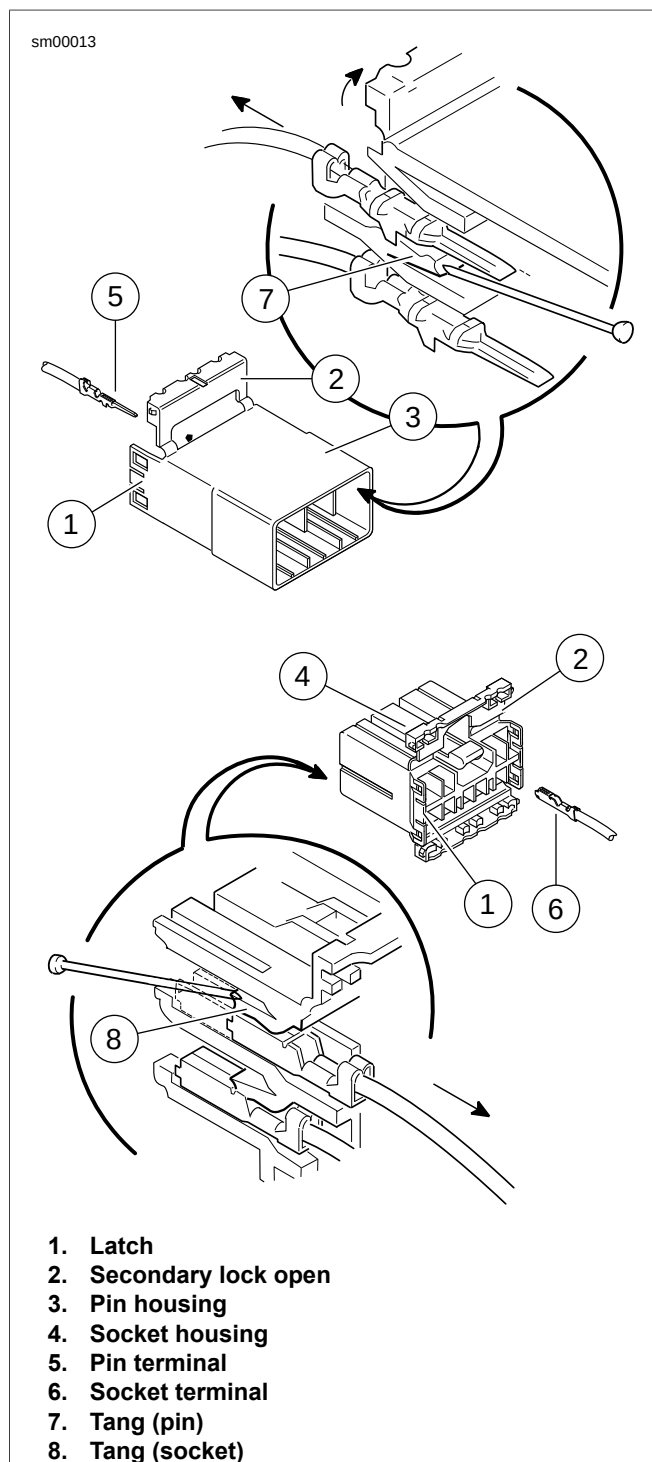

Figure A-59. Tyco 070 Multilock Unsealed Connector: Socket and Pin Housings
1. See Figure A-59. Bend back the latch (1) to free one end of secondary lock (2) then repeat on the opposite end. Hinge the secondary lock outward.